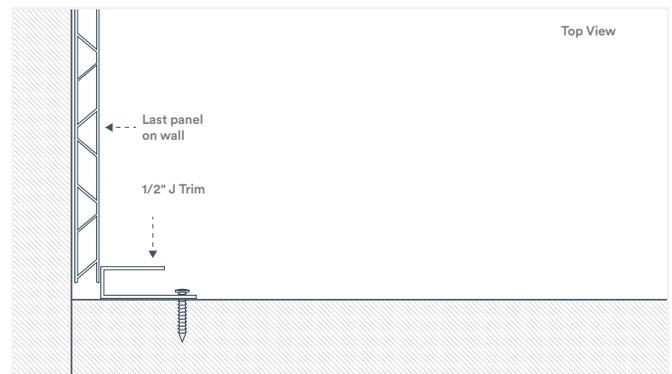

Fig. 15
9. After the last panel on the wall has been installed, place the next corner trim piece directly beside that panel with the channel facing away from the panels ensuring it is pushed tight to the corner and then fasten it to the wall (Fig. 15).